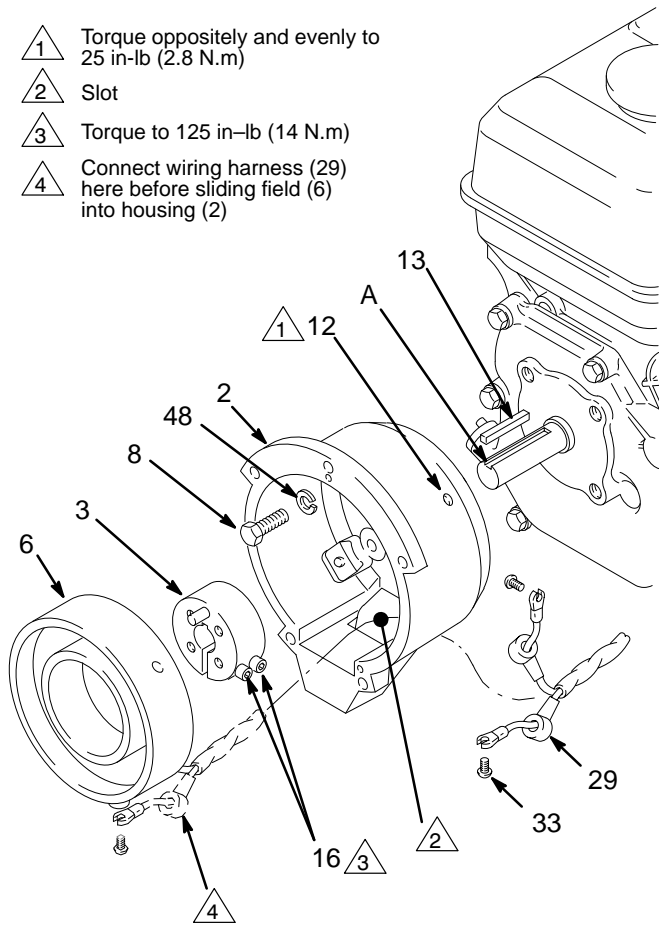
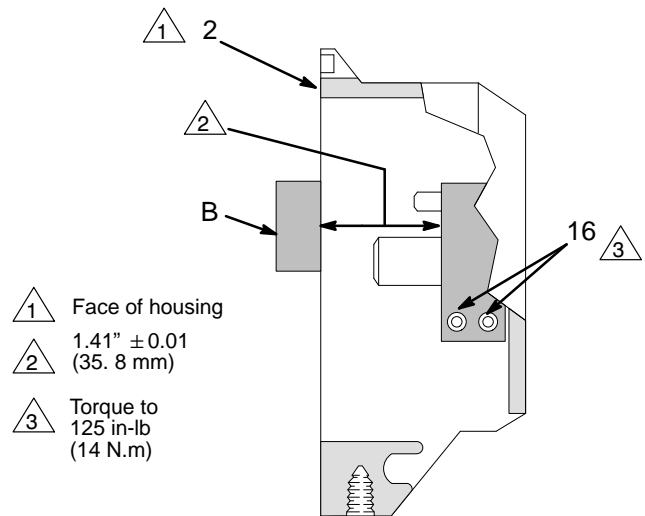

Fig. 29
Fig. 30
1. Install the **clutch housing (2)**, capscrews (8) and lockwashers (48) on the engine. See Fig. 29.
2. Install the engine shaft **key (13)**. See Fig. 29.
3. Press the **clamp (3)** onto the engine shaft. Maintain the 1.41 in.  $\pm$  0.01 (35.8 mm) dimension shown in Fig. 30.
4. To check the dimension, place a rigid, straight steel bar (B) across the face of the clutch housing (2). Use an accurate measuring device to measure the distance between the bar and the face of the clamp. Adjust the clamp as necessary. Torque the two screws (16) to 125 in-lb (14 N.m).
5. Connect the wires of the harness (29) to the screws (33) in both places on the field. Pull the plastic caps (C) up and snap them over the screws. Guide the wires of the harness (29) through the slot in the clutch housing. Slide the **field (6)** into the clutch. Align the setscrew holes in the field and the clutch housing (2). Tighten the setscrews (12) oppositely and evenly, to 25 in-lb (2.8 N.m). See Fig. 29.
6. Place the **engine (1)** assembly on the cart. Align the mounting holes. Guide the engine wire (D) and wiring harness (29) from the field through the appropriate grommets (66) in the mounting plate (E). Install the serrated flange screws (14), lockwashers (9) and nuts (61) and torque to 15 ft-lb (20.4 N.m). Install the capscrews (15), lockwashers (80) and washer (34) from under the engine mounting plate to secure the clutch housing (2). Connect the engine wire (A) to the red wire, and connect the black and white wires as shown in the Detail A, Fig. 29.